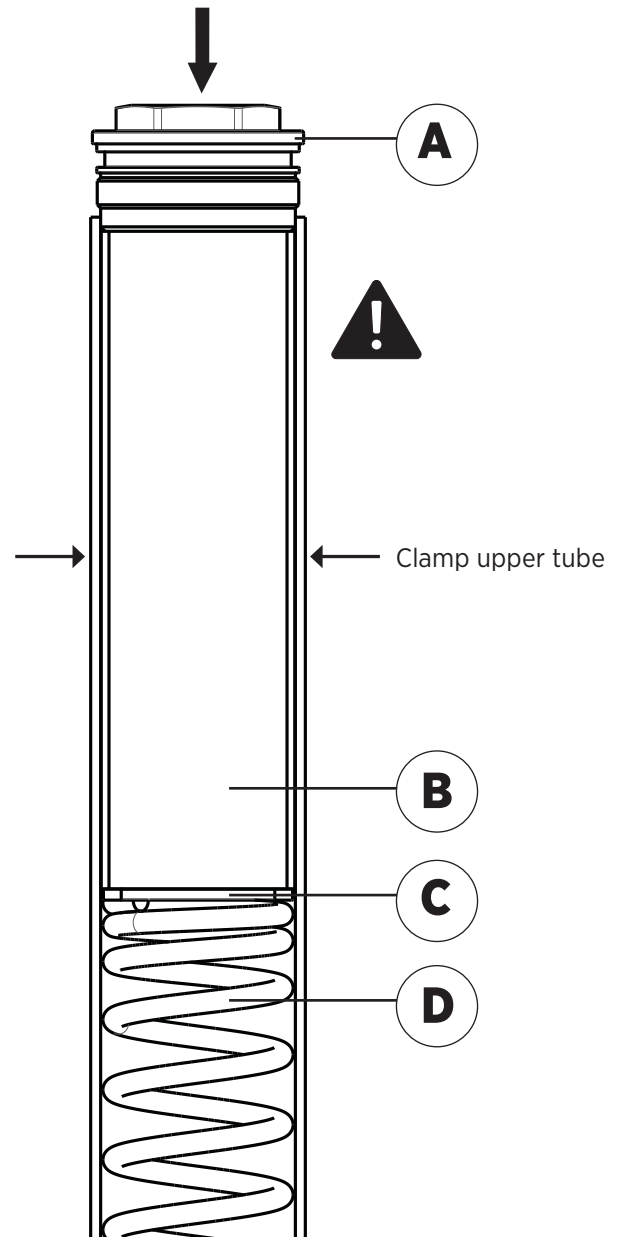

Fig. 2: Carefully remove the top cap.
2. Keep downward force on the top cap and tool while unthreading the cap. Carefully remove the top cap, keeping your body and other objects out of the path of the cap (Fig. 2).